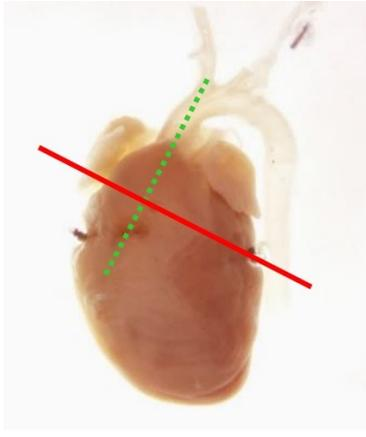

Figure 2.
9. Separate the heart from the aorta by holding the heart with the forceps and using a razorblade. The cut line is made perpendicular to the ascending aorta (Figure 2).